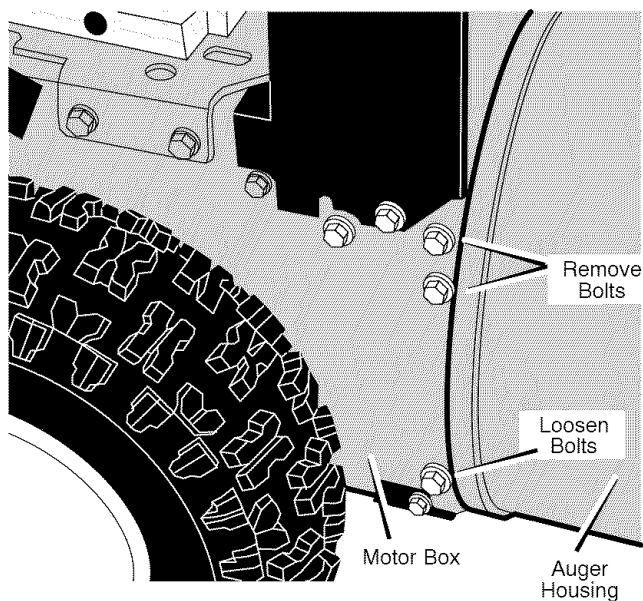

Figure 29
8. Remove the top four **bolts** that hold together the **auger housing** and the **motor box**. Loosen the bottom two **bolts**. The **auger housing** and the **motor box** can now be split apart for removal of the belt (see Figure 29).